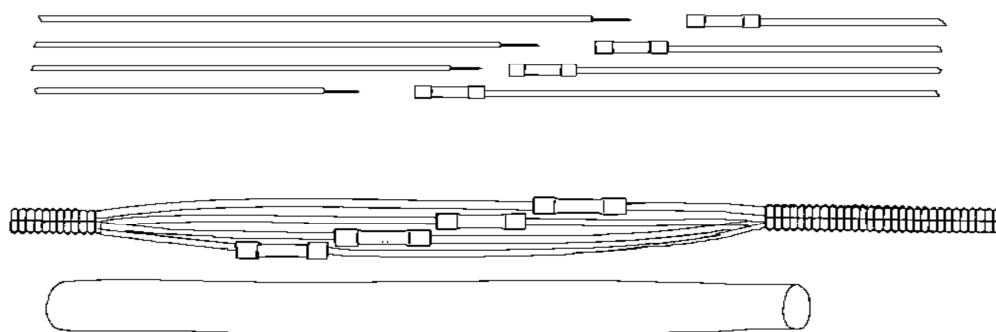

FIG. 13
4.1 FASTENING TOGETHER CCU HALF AND PUMP HALF - FIG. 13
4.11 SEE FIG. 13 AND INSERT BARE WIRE END OF A GIVEN COLOR IN THE PUMP HARNESS HALF INTO THE BUTT CONNECTOR OF THE EQUIVALENT WIRE COLOR IN THE CCU HARNESS HALF AND CRIMP WITH THE PROPER TOOL. CONNECT ALL FOUR WIRES. **CAUTION:** IN POOR LIGHTING OR UNDER MERCURY SHOP LIGHTING, MAKE CERTAIN COLORS ARE NOT ACCIDENTALLY INTERCHANGED (ONE REASON FOR THE STAGGERED WIRES). NOTE THAT LATER HARNESSES MAY HAVE SOLDER TYPE BUTT CONNECTORS. CRIMP AND SOLDER THESE WITH MINI TORCH BEFORE DOING 4.12 BELOW.